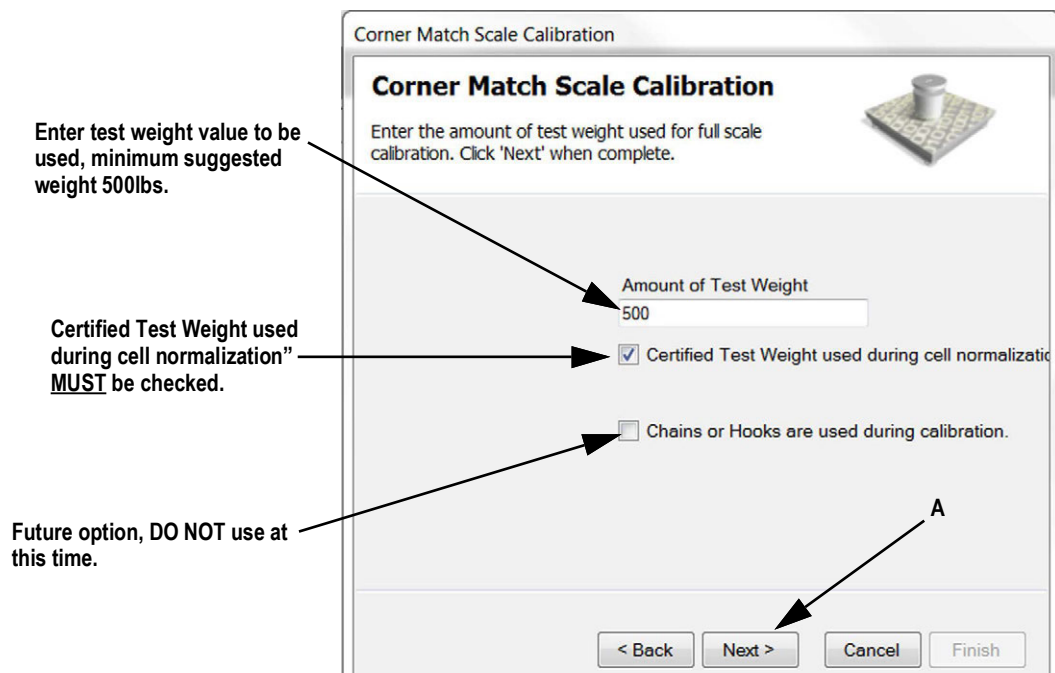

Figure 4-53. Enter Test Weight Value
3. Enter test weight value to be used and press **Next** (Figure 4-53 A).